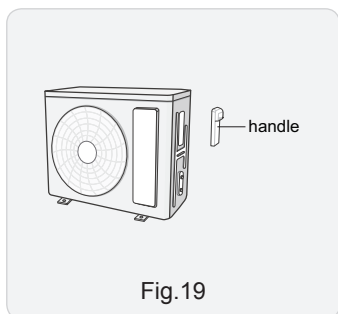

Fig.19
- (1) Remove the screw on the right handle of outdoor unit and then remove the handle.(As show in Fig.19)